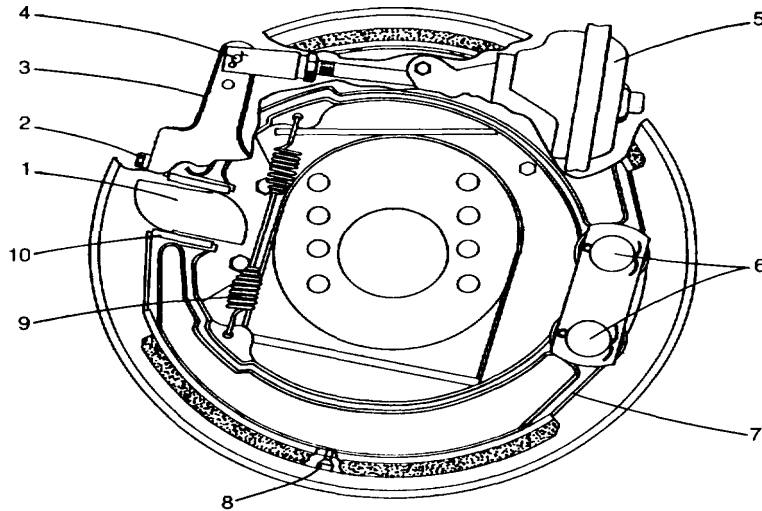

Fig. 1
The front wheel brakes are of the two shoe eccentric anchor pin design. They require no major adjustment after initial setting and "break in" of new lining. The taking up of wear is by means of the slack adjusters (Fig. 1) throughout the life of the lining. After the initial setting and "break in" of the lining, the eccentric adjustment is not changed. Changing the eccentric adjustment during the life of the lining will create an out of round condition resulting in uneven and short lining life, poor braking, unusually high temperatures, and heat cracked drums.
4.2 Adjustment (Fig. 1)